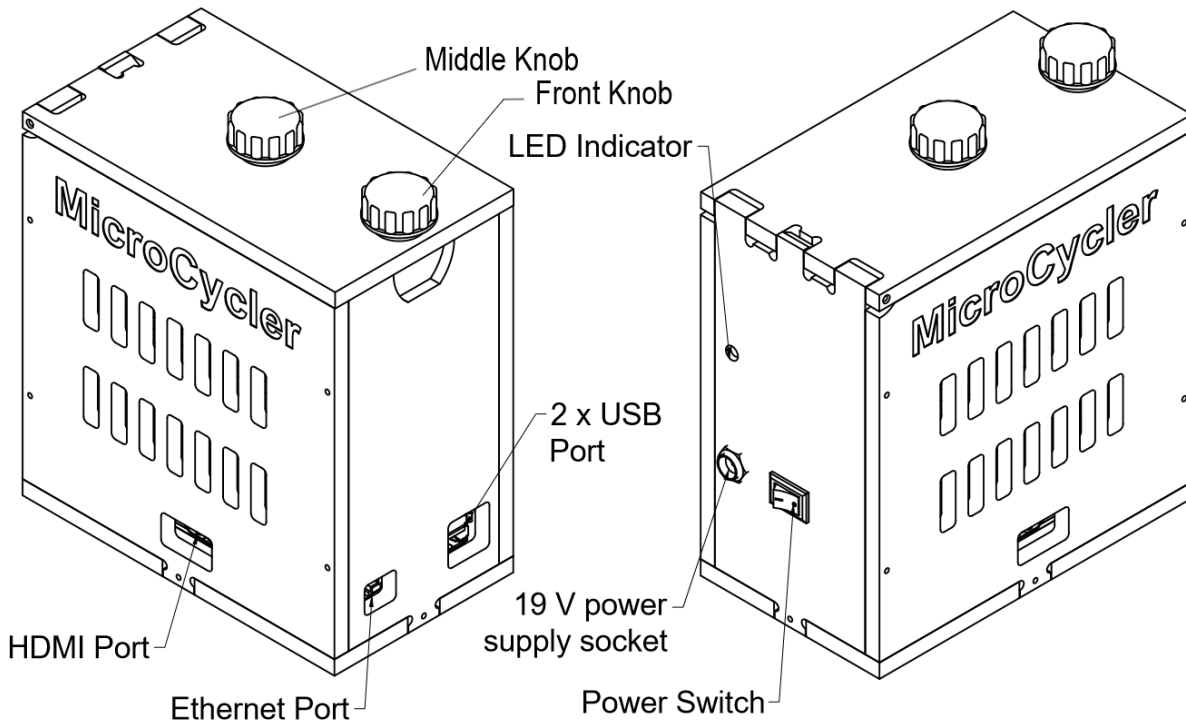

Figure 1. Microcycler™ external parts
- The Microcycler™ package includes one Microcycler™ (Figure 1), one power supply (19V, 4.7A), and a User manual. **Note: Monitor, mouse, HDMI cable, PCR kits and other materials are not included with the Microcycler™.**